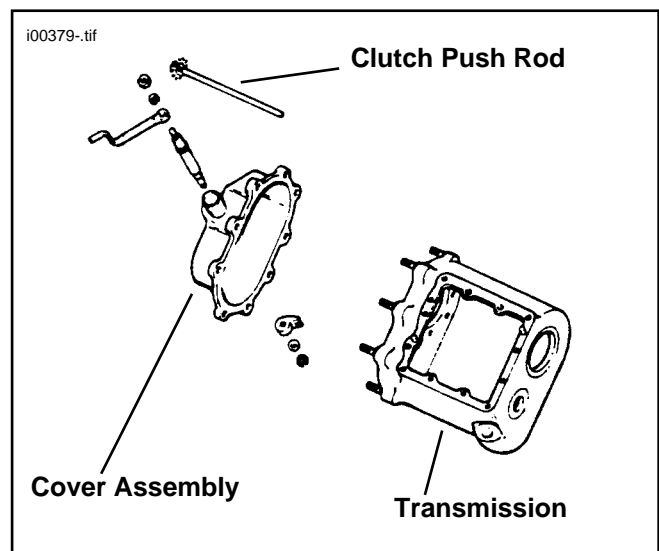
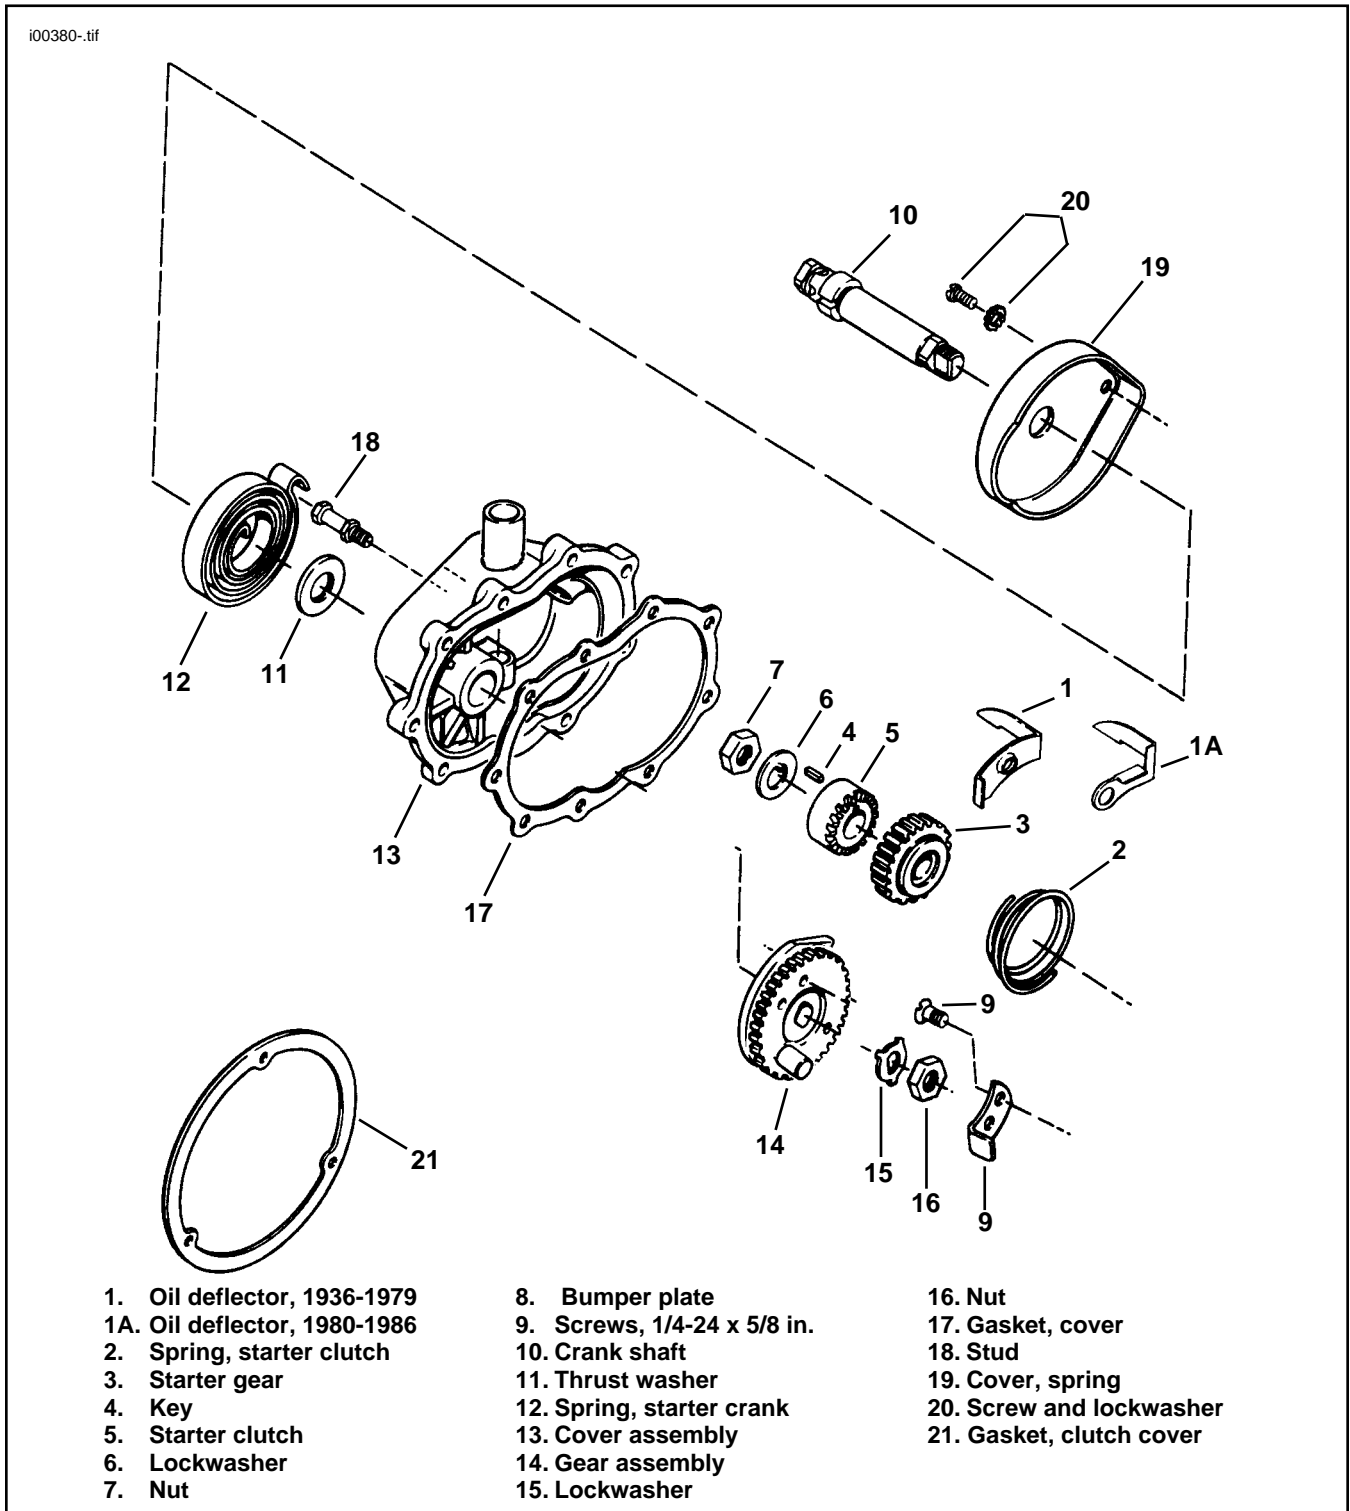

Figure 2. Parts Required From Stock Cover
Figure 3. Kick Starter Assembly
3. See Figure 2. Place a pan under the transmission cover assembly (to catch oil) and remove the nine nuts that secure cover to transmission. Remove the cover assembly.
4. Remove the retaining ring (G) and thrust washer (F) and release finger (E) from the bottom end of release lever shaft (D). Remove the release lever shaft (D) clutch release lever (C), washer (B) and release lever nut (A) as an assembly.
5. Install clutch release lever assembly (parts A - D) on the new cover assembly. Install release finger (E), thrust washer (F) and retaining ring (G) on the bottom end of release lever shaft (D).
8. See Figure 3. Apply 2-3 drops of Loctite 242 onto threads of screw removed above and use this screw to mount the oil deflector (1 or 1A) to the bearing retaining plate. (See Figure 3 for oil deflector identification and model application.)
17. See Figure 3. Install lockwasher (15) and nut (16) on the crankshaft (10) and tighten to 30-40 ft-lbs.
19. Place side cover gasket (17) over studs on transmission case.
20. See Figure 2. Insert clutch push rod assembly into cover assembly. Make sure that the release finger (E) is positioned behind the push rod.
21. Insert the clutch push rod into the mainshaft and using the push rod as a guide, install the new cover on the transmission. Make sure dowel pin on starter gear clears the front of the start bumper plate (8).
23. Install stud (18) in threaded hole near crankshaft (10) and place starter crank spring (12) on crankshaft (10) making sure tang on spring engages slot in crankshaft.
24. Insert a heavy Phillips screwdriver blade into the hook on the outer spring coil and wind spring clockwise one turn and place hook on stud (18).
25. Install starter spring cover (19) over start spring and secure with screw and washer (20).
26. See Figure 2. Install clutch cable on clutch release lever (C). Refer to the Service Manual that covers the motorcycle being worked on and adjust the clutch following the instructions given.